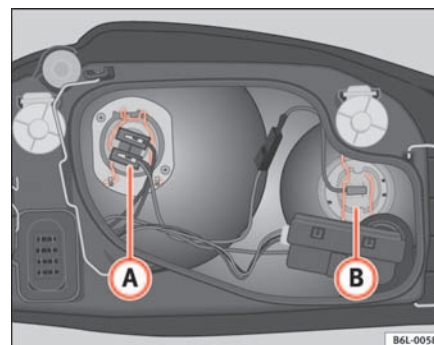

Fig. 151 Dipped headlight lamp
- Remove the lamp cable connector Ⓐ ⇒ fig. 151.